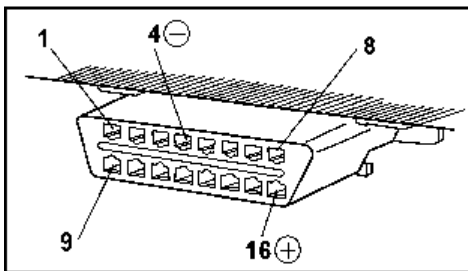

Fig.3.1
1. Pin definition for 16-pin OBD II diagnostic socket (Fig.3.1)